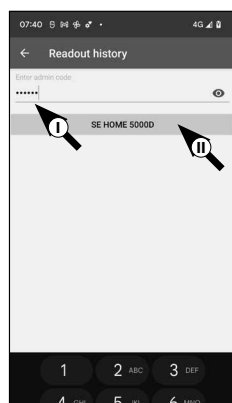

Fig. 91
- ⑤ Next, you will be prompted to type in your administrator code (I) (Fig. 91).
- ⑥ Below the entry field is a large button which is automatically titled with the name of the respective cylinder. Tap it to confirm (II) (Fig. 91).